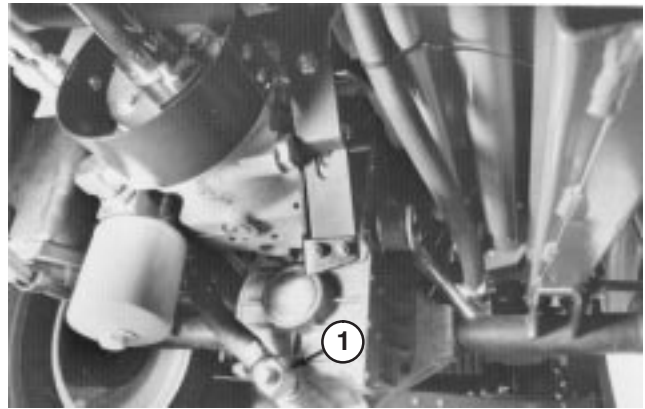

Figure 53
4. Remove drain plug from fitting between axle housing and oil filter and allow oil to flow into drain pan (Fig. 53).
6. Install drain plug in fitting between axle housing and oil filter (Fig. 53).
9. Leave machine set for two additional minutes, then remove dipstick and check oil level in axle (Fig. 54). If level is low, add oil until level matches groove in dipstick (Fig. 54). If level is too high, remove drain plug (Fig. 53) and drain oil until oil level matches groove in dipstick.